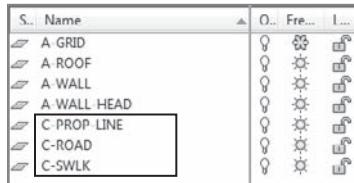

FIGURE 13.38 The Layer Properties Manager showing the new layers
6. Open the Layer Properties Manager. Figure 13.38 shows that the site plan's layers have all become layers in the 13A-FPLAY3 drawing and no longer have the 13C-SPLAY1| prefix.